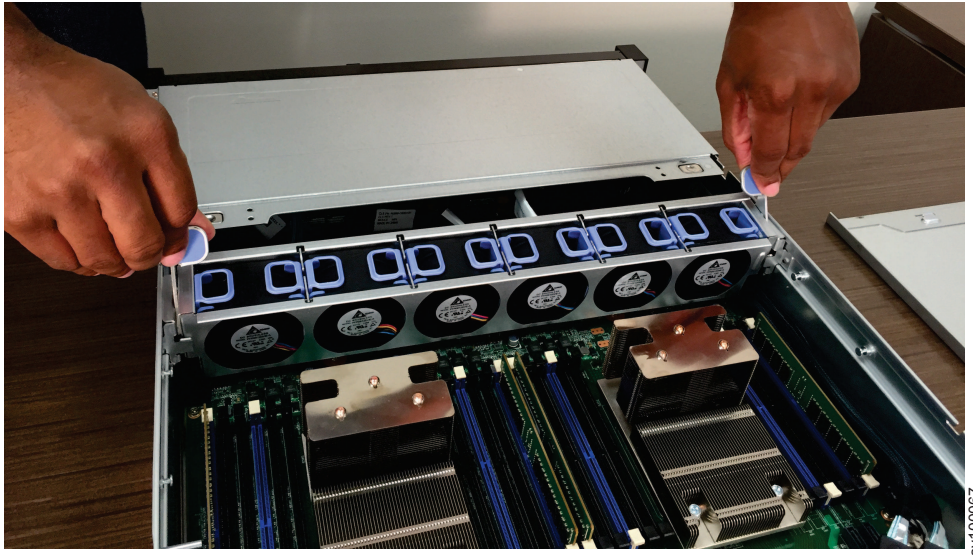

Figure 284. Removing the fan bracket
2. Press the fan-bracket release latches toward each other and lift the fan bracket out of the server, as shown in Figure 284 on page 343.